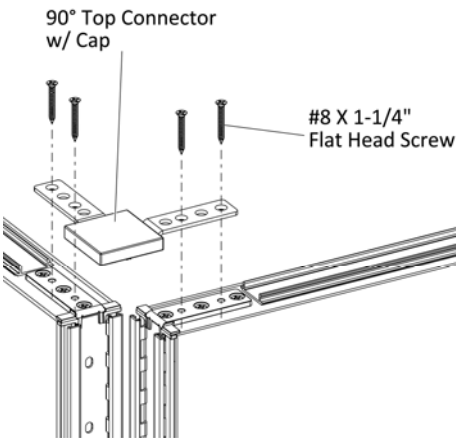

Figure 2
- 4. Drive four #8 X 1-1/4" Flat Head Screws through the holes in 90-degree top connector into the panels, (Figure 2).